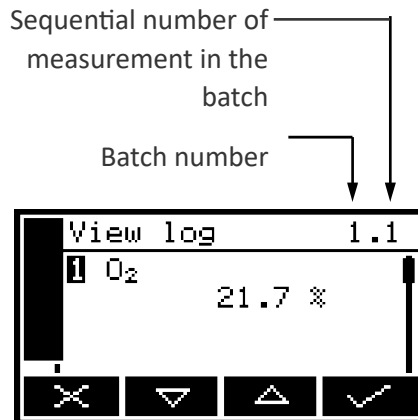
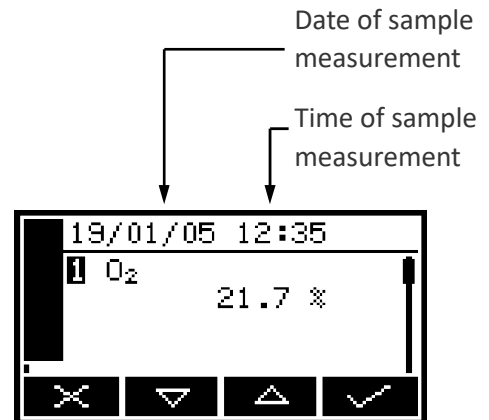

Figure 34: The View log (batch) screen
Figure 35: The View log (date) screen
2. Use the  and  soft keys to highlight the "View log" option, then press the  soft key. The View log (batch) screen is then displayed, alternating with the View log (date) screen: see Figure 34 and Figure 35.